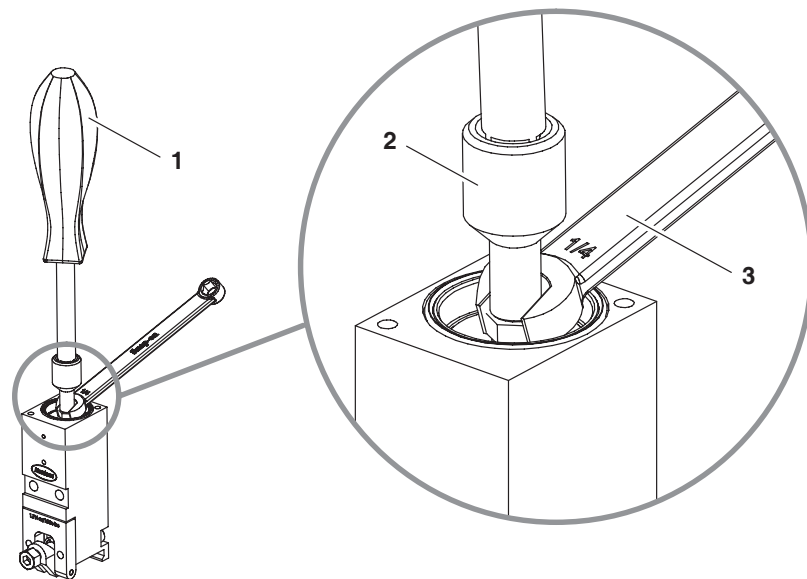

Figure 23 Using the stem wrench tool and an open-end wrench to tighten the 5-40 nut
13. See Figure 23. When the 5-40 nut is snug, use the stem wrench tool in combination with a standard 1/4-in. open-end wrench to fully tighten the 5-40 nut and properly compress the piston washers against the piston seal. Tighten the 5-40 nut to approximately 2.3–2.8 N•m (20–25 in.-lb).